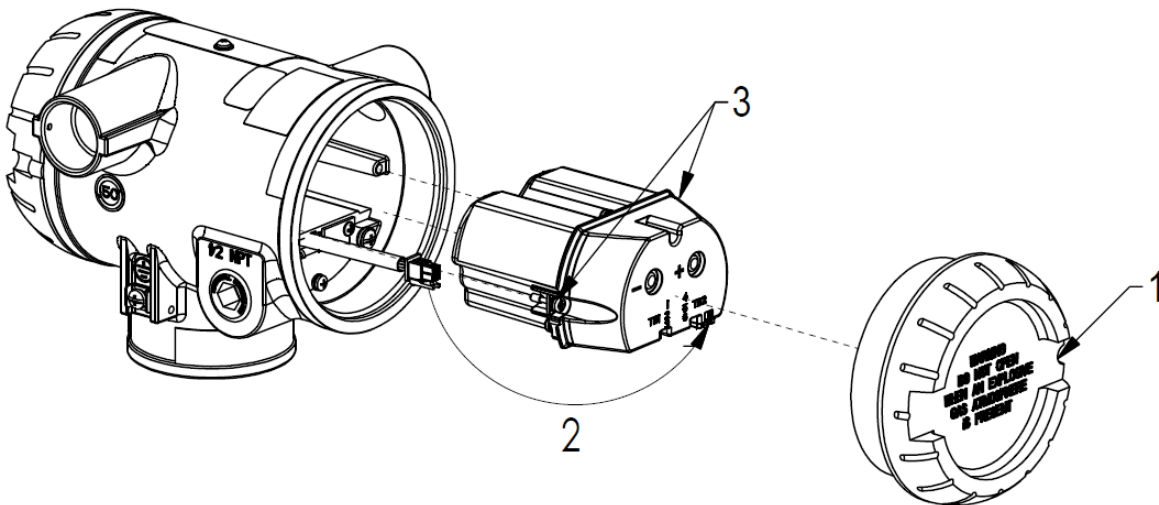

Figure 3 XYR6000 & Smartline Wireless Battery Assembly
Step – 1: Loosen the M3 locking set screw on the battery end-cap (opposite end from display). See item 1 in Figure 3. Unscrew and remove the end cap.
Step – 2: Using thumb and forefinger, squeeze the battery connector at top and bottom to disengage the locking mechanism, then pull to disconnect. See item 2 in Figure 3.
Step – 3: Loosen the two battery pack retaining screws. See item 3 in Figure 3 . The screws are captive.
Step – 9: Insert the battery pack into the transmitter. Reattach the screws as indicated in Figure 3 **Error! Reference source not found.**, item 3, to 0.4 to 0.6 N-M (3.5 – 5.3 Lb-in).